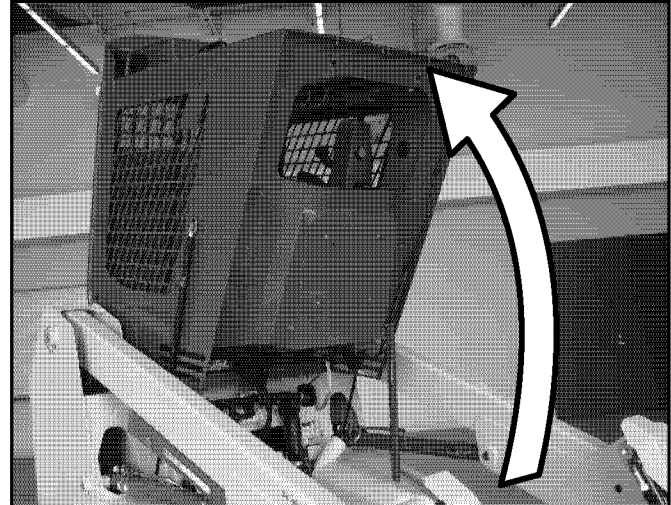

Fig. 146 – ROPS/FOPS Tilting
4. Raise the ROPS/FOPS up as far as it will go (Fig. 146).